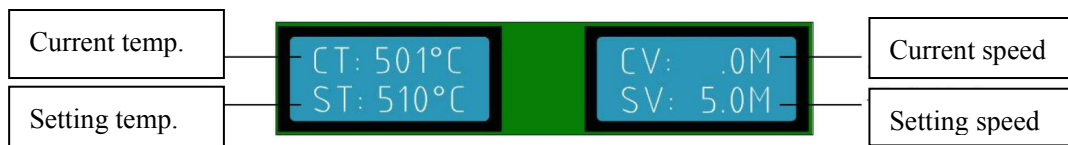

Figure 2
- Press the button (15) and
(16), the screen shows as Figure 2